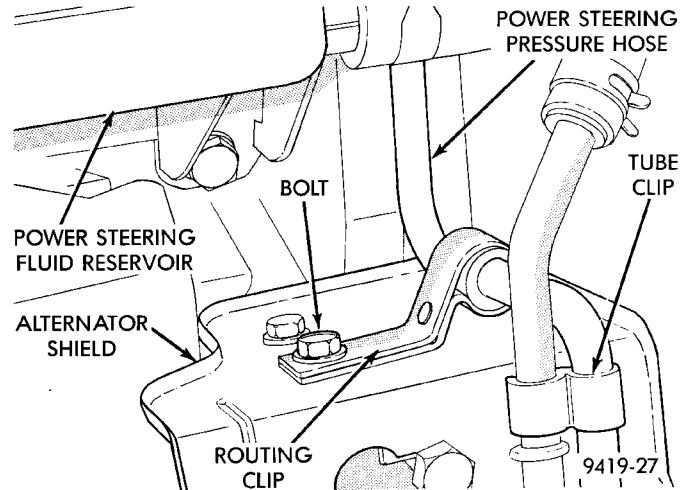

Fig. 11 Power Steering Hose Attachment To Generator Shield
- (5) Lower vehicle.
- (6) Remove bolt, attaching power steering pressure hose routing clip, to generator shield (Fig. 11).
(8) Correctly route power steering pressure hose avoiding tight bends or kinking of the hose. Install power steering pressure hose to generator shield routing clip attaching screw (Fig. 11) **but do not tighten at this time.**
(9) Raise vehicle.